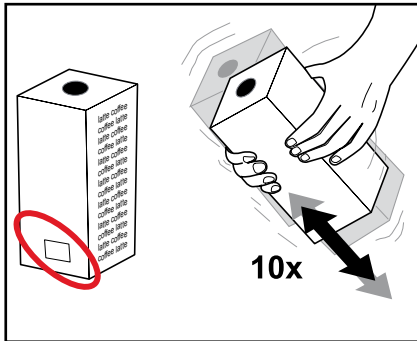

Fig. 15
Read the instructions on the product pack. Never use a damaged product pack. Do not use a product pack if the „Best before“ date has expired (fig. 15).
3. Shake the product pack at least 10 times (fig. 15).